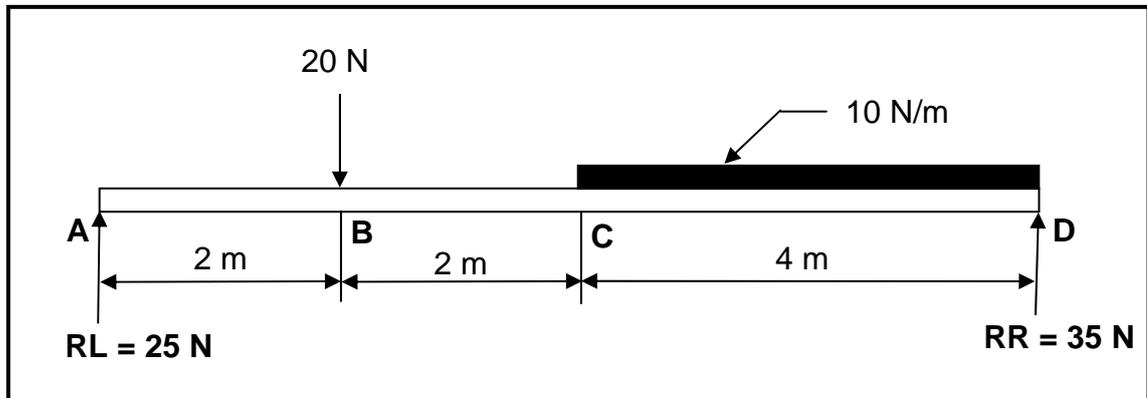

FIGURE 5.4
- 5.4 A simple supported beam with a span of 8 metres, loaded with one point load and one uniformly distributed load (UDL), is shown in FIGURE 5.4.
- 5.4.1 Use the information in FIGURE 5.4 and draw to scale $1 \text{ mm} = 1 \text{ N}$ only a shear force diagram in your ANSWER BOOK.